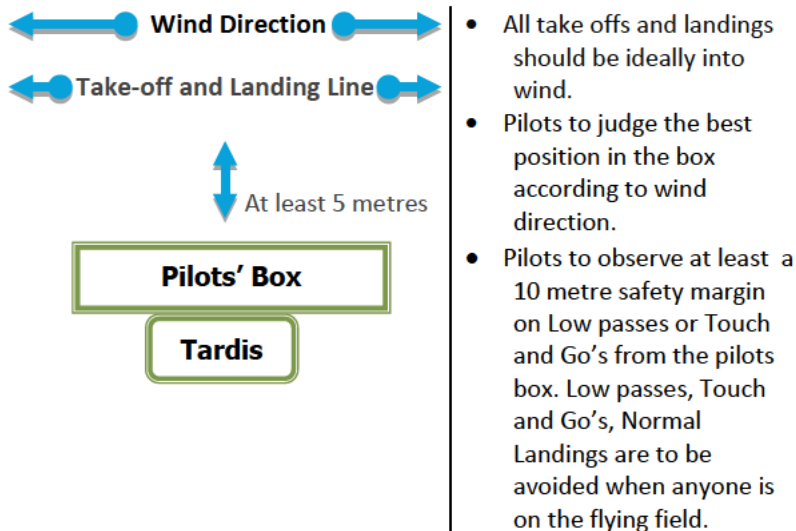
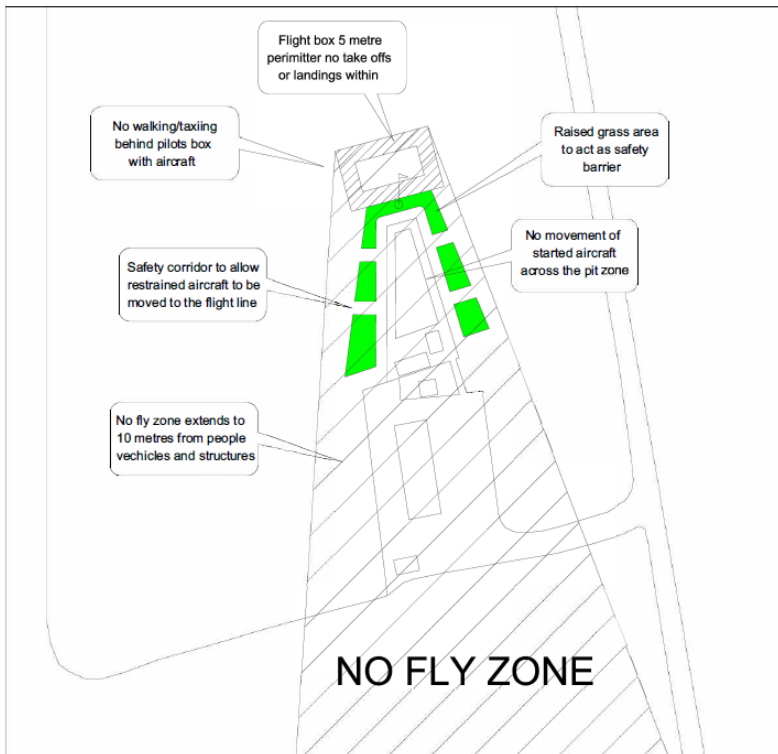

FIGURE 1 - FLIGHT LINE – SEE TEXT
FIGURE 2 – NO FLY ZONE
- b) Aircraft taking-off and landing must **not** come closer than 5 metres to the Pilots Box as shown in Figure 1. Under no circumstances must an aircraft be taxied into the pits; nor must the pits be over-flown. Refer to Figure 2 for specific instructions about the “NO FLY and NO TAXI ZONE” surrounding the Tardis, pits, huts and car park and farm land to the south of the car park.
- c) Pilots must ensure that all take-offs and landings are performed in front of the pilots in the Pilot Box and normally parallel to the wind direction, see Figure 1.